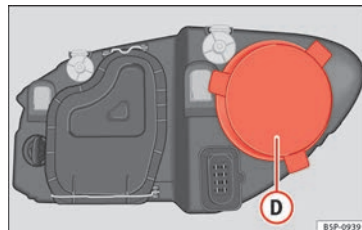

Fig. 182 Side light.
- Remove the cover »» **Fig. 182 ③** by pulling on this.